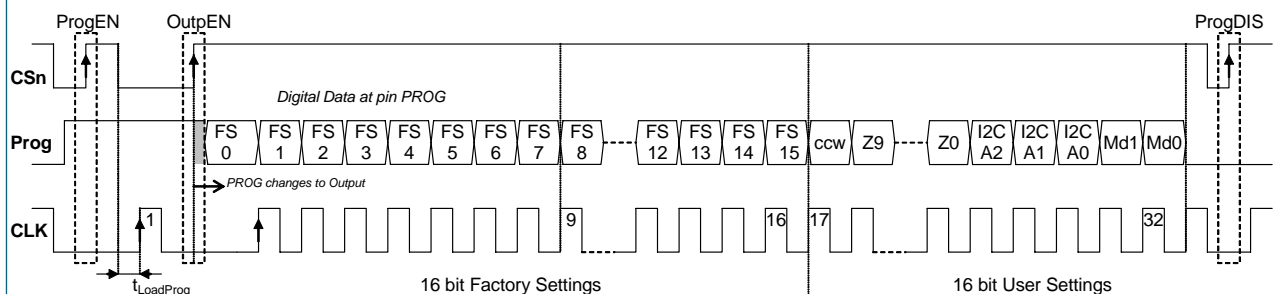
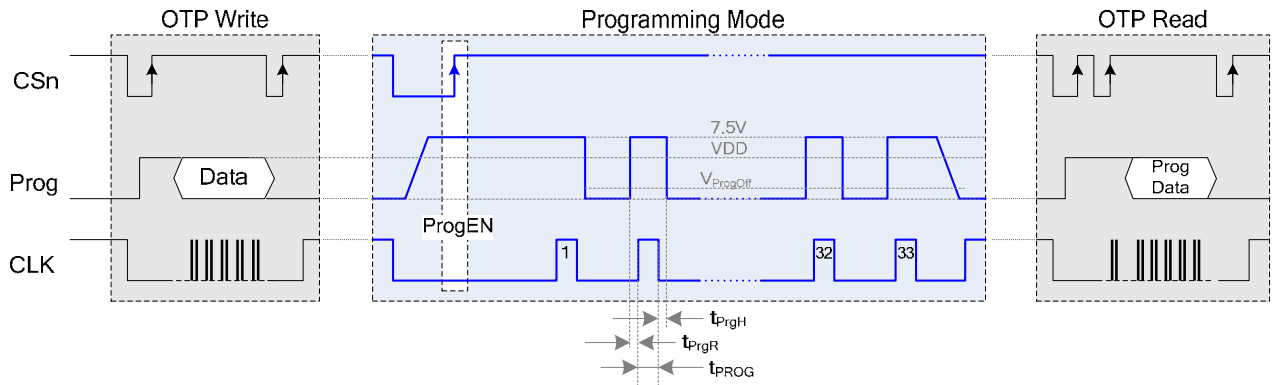

Figure 11: 32-bit OTP register read sequence
Figure 13: Permanent programming and verification of complete OTP register
The complete OTP register read sequence is shown in Figure 11 below. It is initiated with Prog = high and CLK = low at the rising edge of CSn, followed by one dummy clock cycle (CLK #1) with Prog = 1 and CSn = 0 and another rising edge of CSn while Prog = 1. Following this second rising edge of CSn, pin Prog becomes an output and the controller driving pin Prog must change its I/O state from output to input in order to avoid collision of two outputs. The state of Prog is the first bit of the factory settings (FS0). Each subsequent rising edge of CLK shifts out one bit of data. Following the last factory settings bit (FS15) with the 17th clock is the first bit of the user settings (ccw). The 33th clock brings Prog back to 0. The OTP read sequence must be terminated with a pulse on CSn while both Prog and CLK are low.
- After programming is completed, set Prog to 0 and verify the programmed data as shown in Figure 11. Alternatively, you may use the 32-bit OTP analog readback sequence (Figure 8) that allows you to also verify the quality of the programmed and unprogrammed fuses. The complete write-program-verify sequence is shown in Figure 13.
You may apply the OTP “hard programming” sequence (Figure 6, Figure 13) more than once, but you can only change a “0” to a “1”, it is not possible to hard program a “1” back to “0”. If you must repeat the permanent (“hard”) programming sequence on an already programmed chip, you should only set those bits to “1” that need to be modified from “0” to “1”.